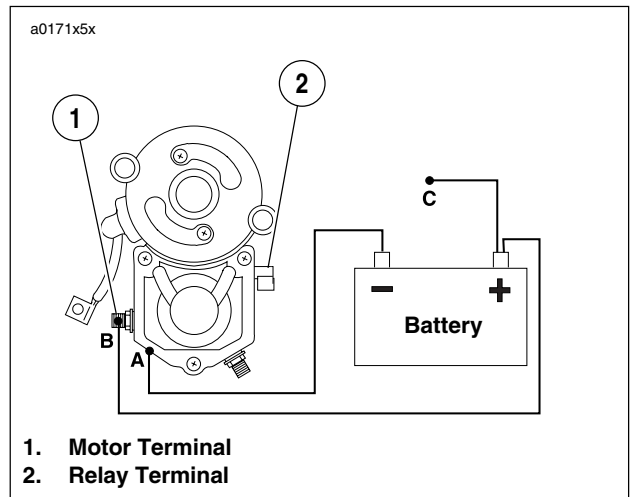

**Figure 5-14. Hold-In Test**
1. See Figure 5-14. With test leads still connected in the manner specified in the previous SOLENOID PULL-IN TEST, **disconnect solenoid motor terminal/battery negative test lead (B) at negative battery post only; reconnect loose end of this test lead to positive battery post instead.**